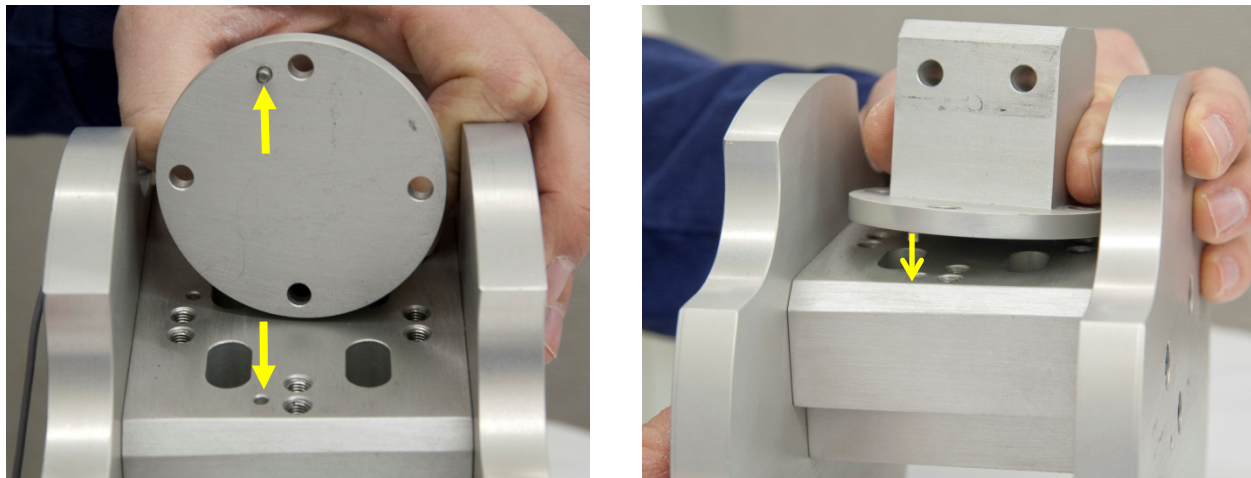

Figure 155. Aligning the lumbar interface to the headform
- Mount the lumbar load cell to the lumbar spine using four M5 x 12 SHCS (Figure 155). The load cell wiring should protrude from the back of the lumbar spine.⁴⁷